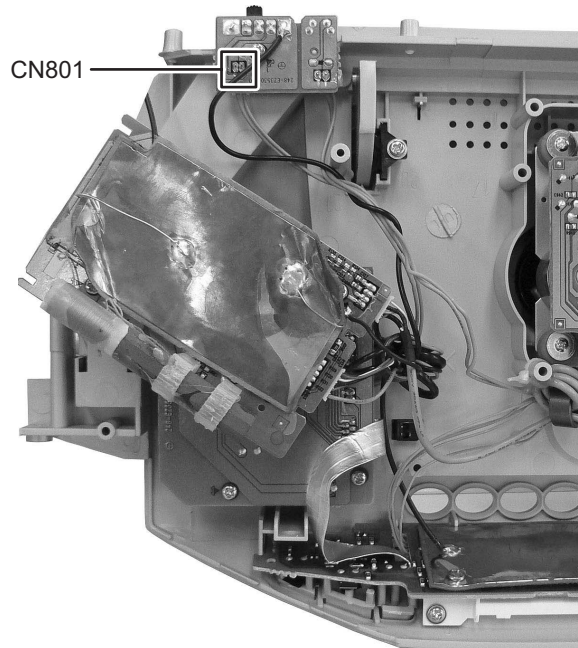

Fig.9
- (4) Disconnect the connector wire from Amplifier board assembly connected to connector CN101 of the Tuner board assembly. (See Fig.9)
- (5) Disconnect the connector wire from Amplifier board assembly connected to connector CN801 of the Headphone jack board assembly. (See Fig.9)